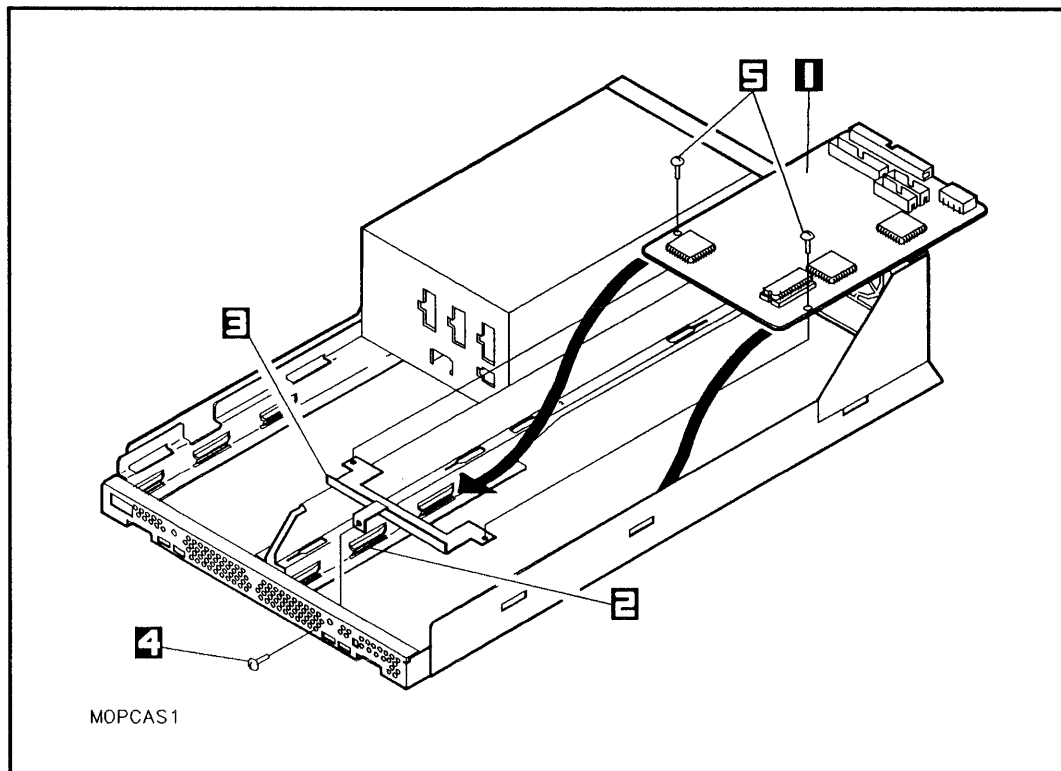
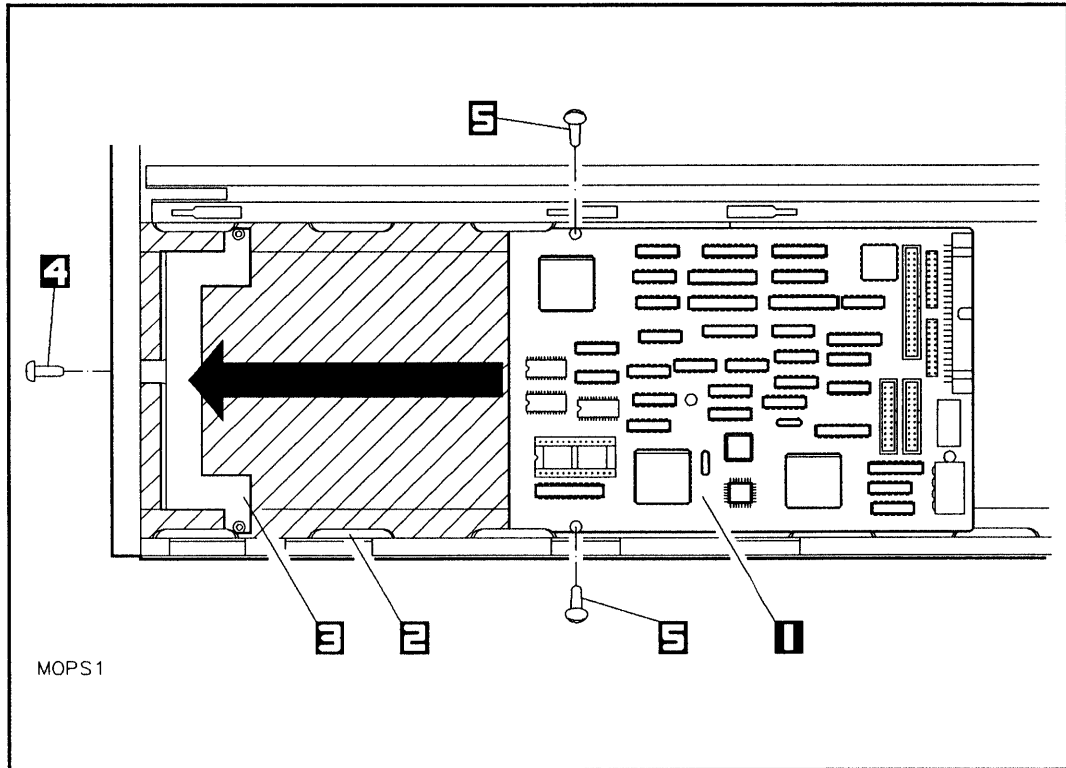

Figure 3-10. Installing the Rewritable Optical Controller PCA
Figure 3-11. Sliding the Rewritable Optical Controller PCA into the PCA Guides
1. Install the PCA mounting bracket into the mass storage system chassis with the bracket-to-chassis screw as shown in Figure 3-10.
2. Lift the rewritable optical controller PCA from the conductive sheet and slide it into the PCA guides in slot 1 (see Figure 3-10 and Figure 3-11). Make sure that the two holes in the controller PCA toward the front of the mass storage system align with the holes in the mounting bracket beneath the controller PCA.
3. Attach the two bracket-to-PCA screws through the controller PCA into the mounting bracket (see Figure 3-11). Do not over-tighten these screws.